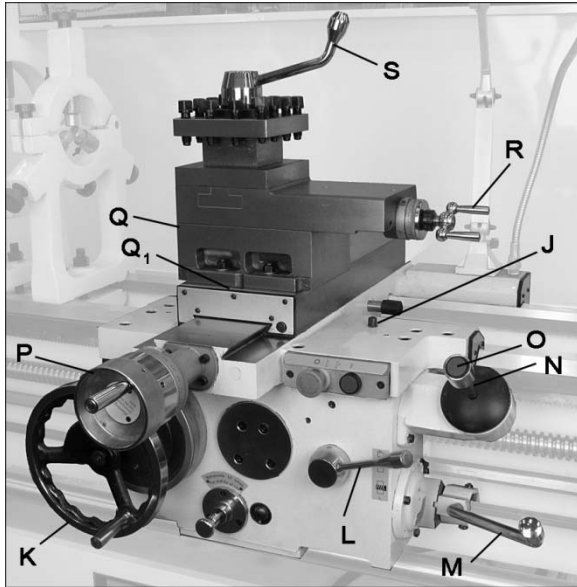

Figure 25 – Carriage controls and settings
5. **Carriage Lock** (J, Figure 25): Located on top right of carriage. Turn clockwise to lock, counterclockwise to unlock.
6. **Carriage Handwheel** (K, Figure 25): Located on the apron. Rotate handwheel clockwise to move carriage assembly toward tailstock (right). Rotate the wheel counterclockwise to move carriage assembly toward headstock (left). A scale is mounted to the ring, graduated in 0.05 inch increments, and can be calibrated by loosening the thumb screw lock and rotating the ring as needed. Always re-tighten ring before using the feed.
7. **Half Nut Lever** (L, Figure 25): Located on front of apron assembly. Engages the leadscrew for threading operations.
9. **Spindle Direction Control Lever** (M, Figure 25). Move lever to the right so that its tab clears the notch, then down for forward spindle rotation, or up for reverse spindle rotation. Allow spindle to come to a stop before changing directions.
10. **Feed Direction Lever** (N, Figure 25): Left and right moves the carriage in the corresponding directions (longitudinal feed); up and down moves the cross slide (cross feed).
11. **Rapid Traverse Button** (O, Figure 25). Push for rapid movement in the direction set by the feed direction lever. Rapid longitudinal movement disengages the carriage handwheel. **However, the cross slide handwheel should be disengaged (pull it out) before using rapid feed.**
12. **Cross Slide Handwheel** (P, Figure 25): Located above apron assembly. Clockwise rotation moves cross slide toward rear of machine. The accompanying scale is graduated in 0.002 inch increments. *Before using rapid feed, disengage this handle by pulling it outward.*
13. **Compound Rest** (Q, Figure 25): Located on top of the cross slide and can be rotated 360° by loosening four nuts (two in front, two in back). There are calibrations in degrees (Q₁, Figure 25) to assist in placement of the compound rest to the desired angle.
14. **Compound Rest Handle** (R, Figure 25): Rotate clockwise or counterclockwise to position. The accompanying scale on the collar is graduated in 0.001 inch increments.
15. **Tool Post Clamping Lever** (S, Figure 25): Rotate counterclockwise to loosen and clockwise to tighten. Always use minimum of two clamping screws to secure a cutting tool.